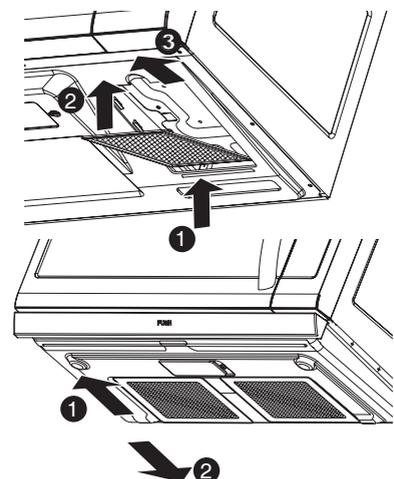

Figure 35
6. Grasp the filter screen with one hand holding the ring and the other hand holding the opposite end. Insert the end of the filter screen without ring into the opening and slide towards the side of the microwave oven. Insert ring end of filter screen into the opening and slide entire screen towards the center of the microwave until screen is securely in position. Repeat for other filter screen. See Figure 35.